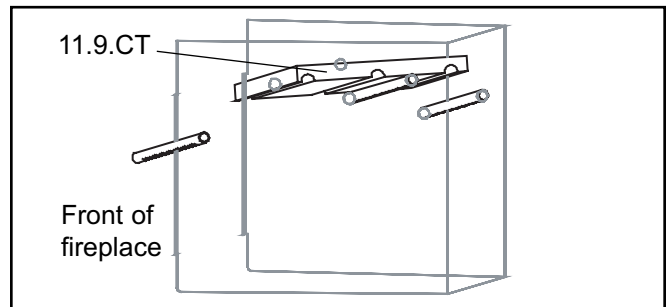

Figure 16a
- 2. Place the baffle (11.9.T) above the other two tubes and ensure its proper orientation: narrow part towards the rear and grooves towards the bottom (see Figure 16a).